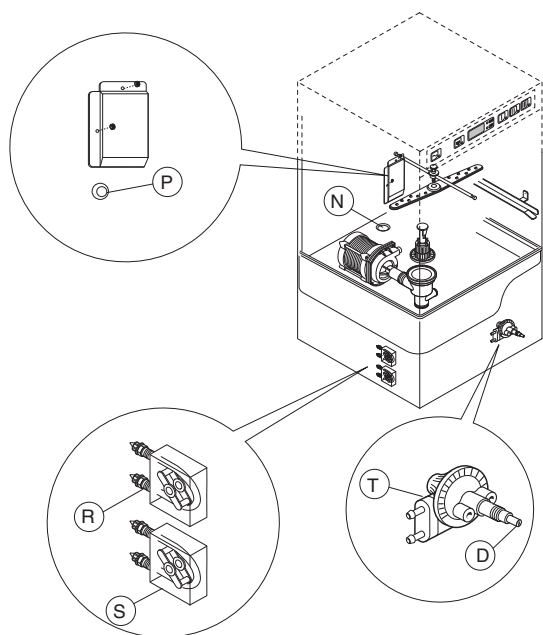

Figure 16
1. Dishwasher with incorporated detergent dispenser pump (Figure 16).
2. Dishwashers with incorporated peristaltic rinse-aid dispenser pump (Figure 16).
3. Dishwashers with incorporated rinse-aid diaphragm dispenser pump (Figure 16).
Connections for automatic detergent dispenser (Figure 16)
In the appliances with pressure boiler, the diaphragm dispenser pump may be manually activated by pressing screw “D” (Figure 16).
To change the dispensed amount, turn $\pm \text{D}$ on screw "D" accordingly (Figure 16).